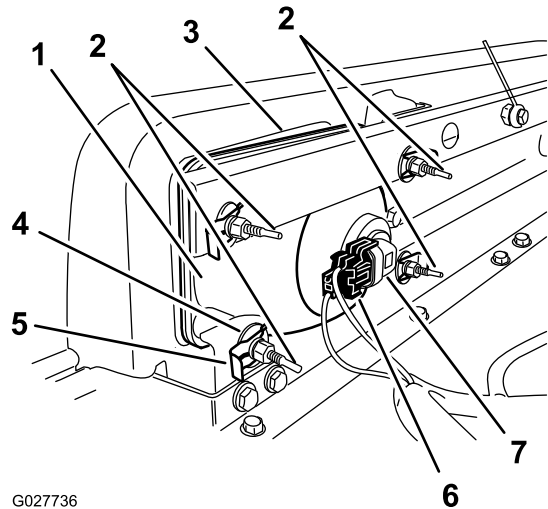

Figure 59
3. Disconnect the electrical connector for the harness from the connector of the lamp assembly (Figure 59).
4. Remove the speed clips and washers that secure the headlight to the headlight bracket (Figure 59).
5. Remove the headlight assembly by moving it forward through the opening in the front bumper (Figure 59).
6. Install the new headlight through the opening in the bumper (Figure 59).
8. Connect the electrical connector for the harness to the connector of the lamp assembly (Figure 59).
2. At the back of the headlight assembly, rotate adjustment screws (Figure 59) to pivot the headlight assembly and align the position of the cast beam.